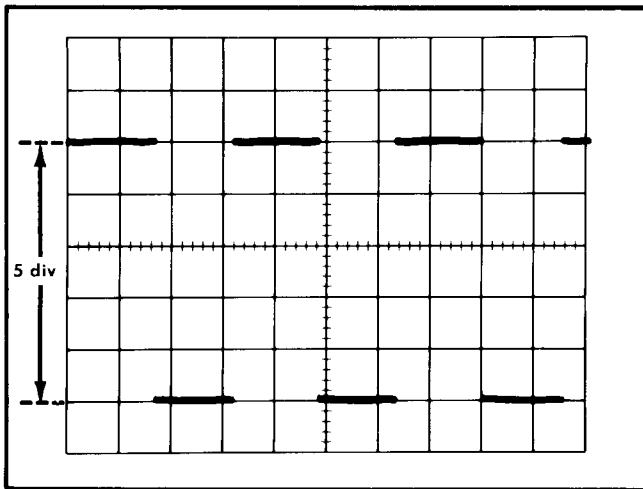

Fig. 2-2. Adjusting the AMP CAL control for proper deflection.
- d. Adjust the AMP CAL control to obtain exactly 5 div of vertical deflection (see Fig. 2-2).